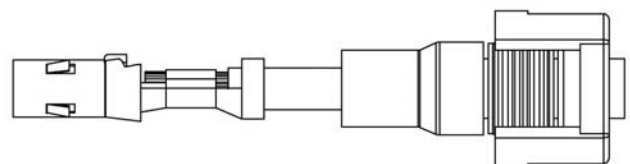

Figure 11
**i** *NOTE* The finished product should visually match the example shown in Figure 11 and is now ready for insertion into the cap connector assembly.